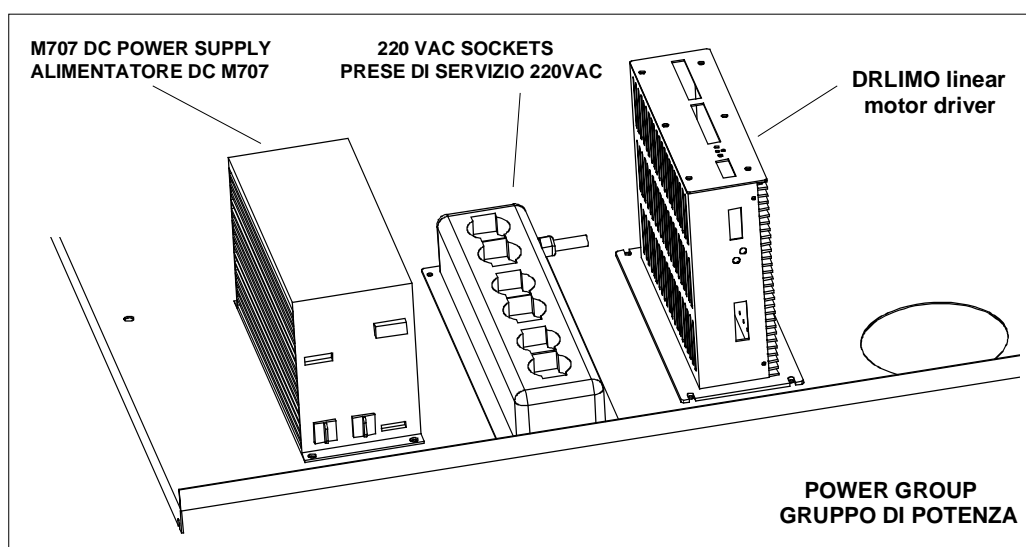

Fig.7 - Power group
- The power supply trolley, shown in fig. 7 on page 16.
Connect now the trolley with the electronic units placed under the printer section (see fig. 7 on page 16).
The power group is placed behind the optical laser group. It shown in fig. 7. Connect the plug labeled **TO CONTINUOUS POWER UNIT** to the UPS.
The two **compressed air outputs** must be connected, one to the linear motor (sled) and the second one to the **DRLIMO** driver air input (see fig. 7 on page 16). To lock the tubes push them well into the holder.